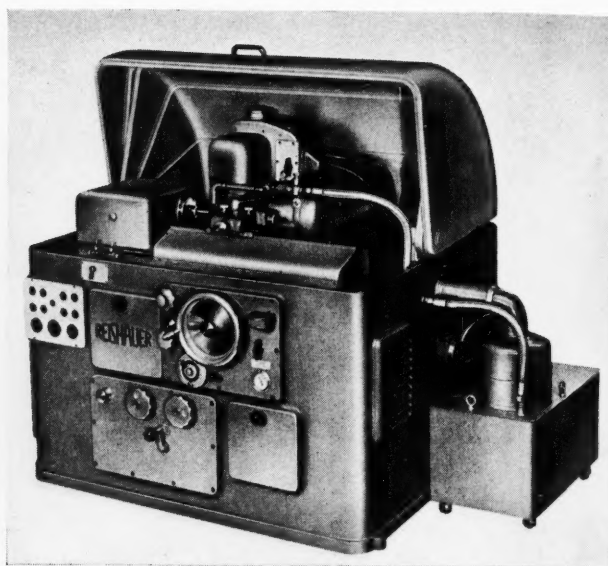
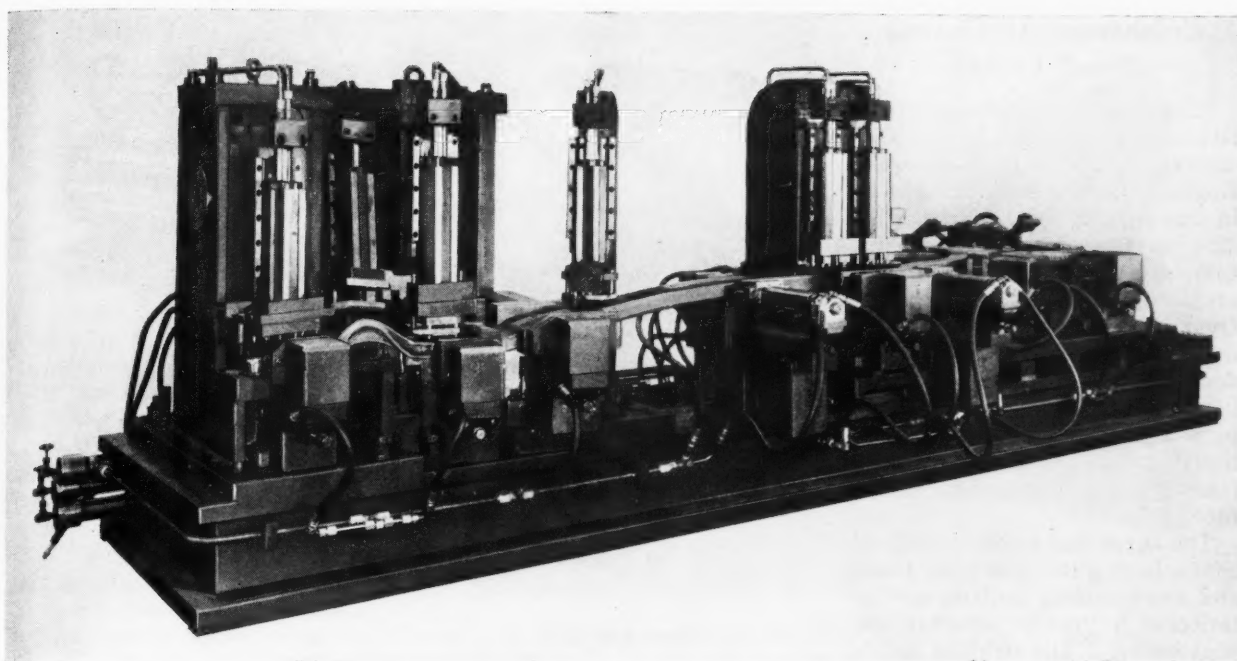

Fig. 2. Reishauer automatic thread grinding machine
Fig. 1. Danly hydraulic machine for piercing holes in flanges and web of automotive frame side bars
made by the Reishauer Tool Works, Ltd., Zurich, Switzerland. This machine, shown in Fig. 2, is designed to grind very small and medium threads on straight or spiral fluted taps, micrometer spindles, worms, thread gages, screws, studs, etc. It is adapted for high-speed production, operates on the longitudinal feed principle, and employs a single thread grinding wheel. This method of grinding is said to provide maximum accuracy in producing fine-pitch threads. "Down" time is
by a basic unit of special design incorporating a hydraulic cylinder. These units have built-in blank-holding and stripping mechanisms which are entirely automatic, and are actuated hydraulically after the power stroke is completed. The sixteen-unit hydraulic machine shown in Fig. 1 pierces the holes in the flanges and web of automotive frame side bars in one simple operation. The cut-away views shown in Fig. 2 illustrate the action of the basic power cylinders. The units can be arranged at any angle.
Fig. 2. Hydraulically operated cylinder of machine shown in Fig. 1. Cut-away view at left shows cylinder with power stroke completed, and view at right shows stripping action completed
N. Y. These machines, identified as Types UG 0 (shown in Fig. 1), UG 1, UG 2, UG 3, and UG 5 (shown in Fig. 2), are designed for mass production.